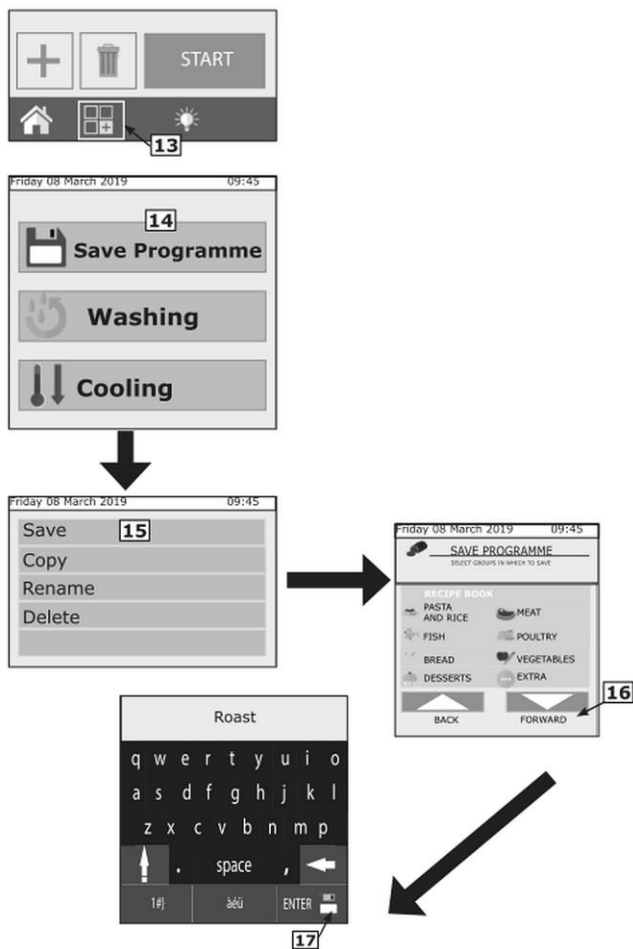

Fig. 21
- after having created a thermal processing program, press Functions key (13, Fig. 21), to access Program functions screen;
- select 'Save Program' function (key 14, Fig. 21);
- in the following screen page press 'Save' key (15, Fig. 21);
- finally, press 'Next' key (16, Fig. 21);
- press Enter key (key 17, Fig. 21), to save the thermal processing program.